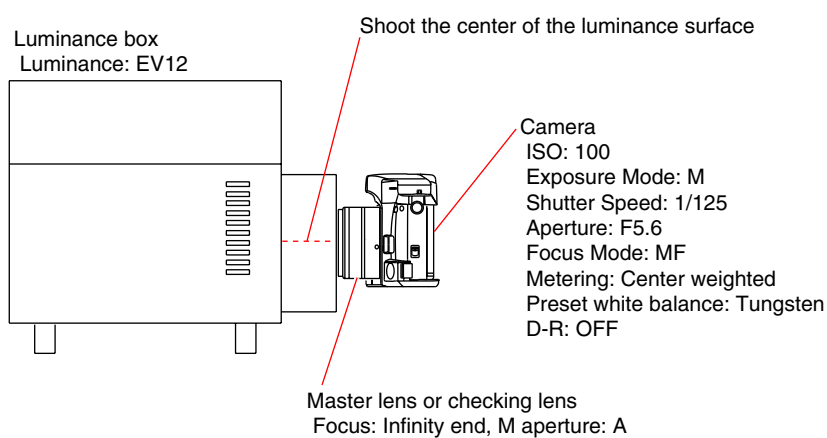

Fig.4-2-2
- 3) Set the equipments, camera and master lens as shown in Fig.4-2-2.